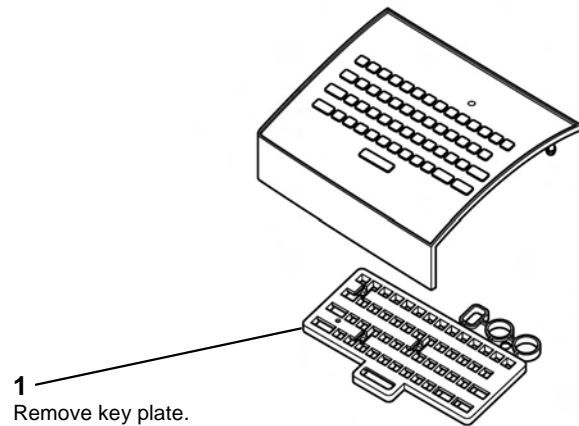

Figure 7 Key plate removal
8. Remove the key plate, Figure 7.